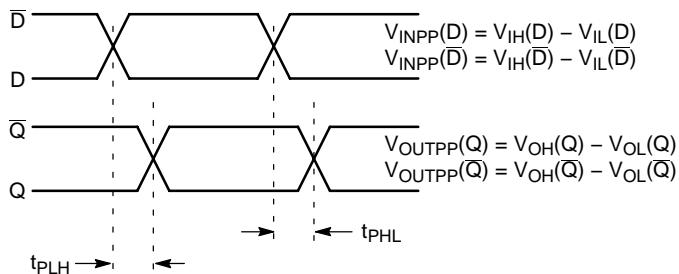

Figure 9. AC Reference Measurement
19. See Figure 9 $t_{SKEW} = |t_{PLH} - t_{PHL}|$ for a nominal 50% differential clock input waveform. Skew is measured between outputs under identical transitions and conditions @ 1 GHz.